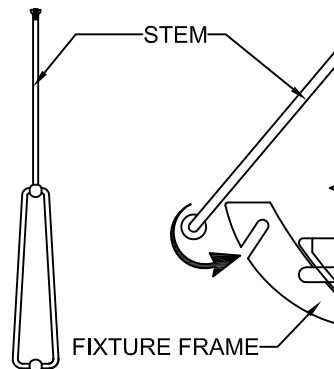

Figure: 1 - 2
- STEP 7:** Assemble the glass to the fixture frame as shown and align to center. *see Figure: 1 - 1.*